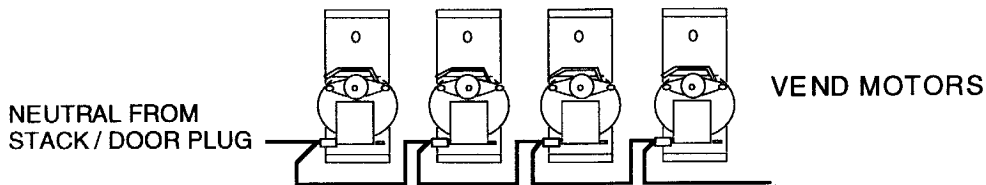

fig. 4a
- In some models neutral travels into the vendors cabinet and is applied to each vend motors through jumper wires (fig. 4a).